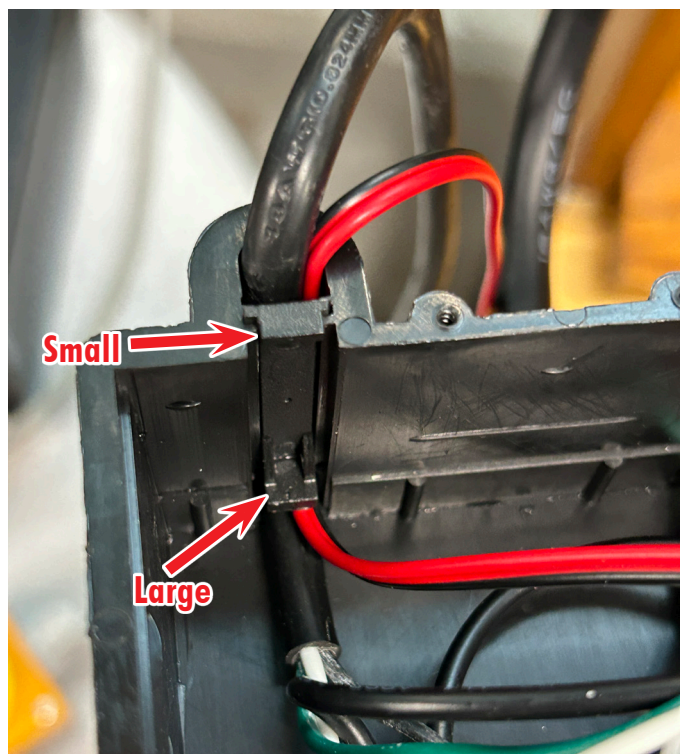

FIGURE 11
- I. Reinstall the cord keeper with the large end inserted first and the small end flush with the bottom of the control housing (see Figure 11).